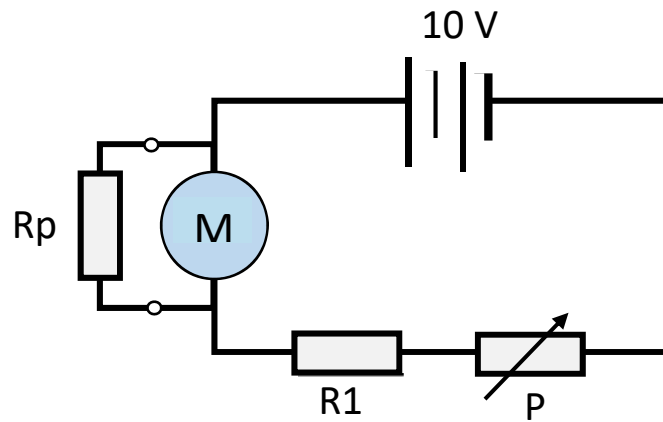

Figure 4
Single meter resistance measurements can also be done by placing the resistance to be measured in parallel with the meter (see Figure 4).
- (b) Connect a circuit as shown in Figure 4.